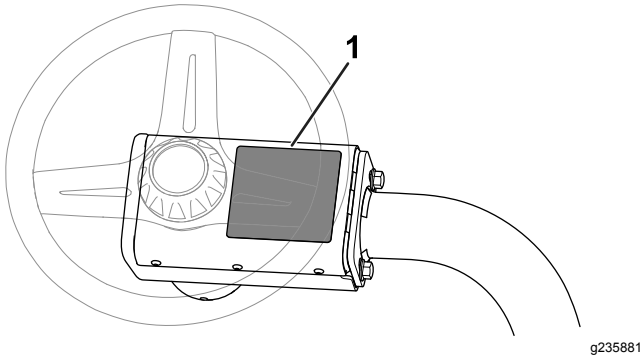

Figure 15
- Apply the CE warning decal (Part No. 136-8505) over the existing warning decal (Part No. 136-8506); refer to Figure 15.